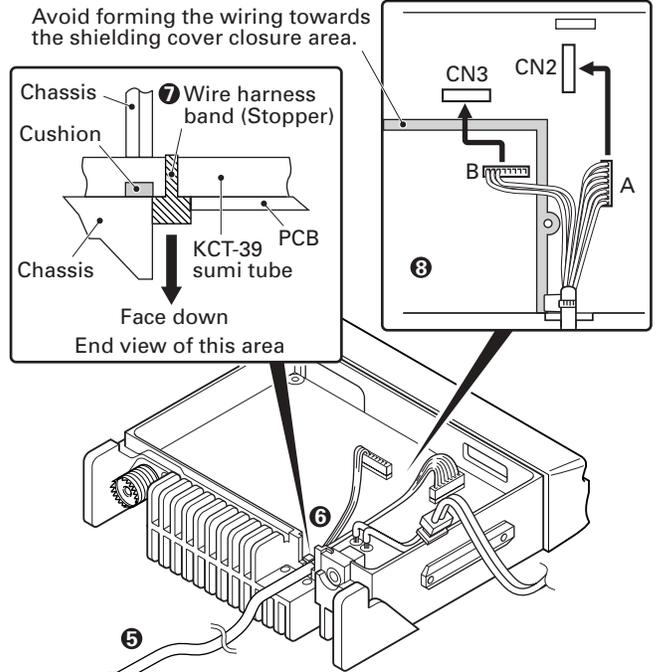

Fig. 5
3. Insert the KCT-39 cable (5) into the chassis (6). The wire harness band (7) must be inside the chassis and face down.
4. Connect the KCT-39 to the TX-RX unit as shown in Figure 5 (8).